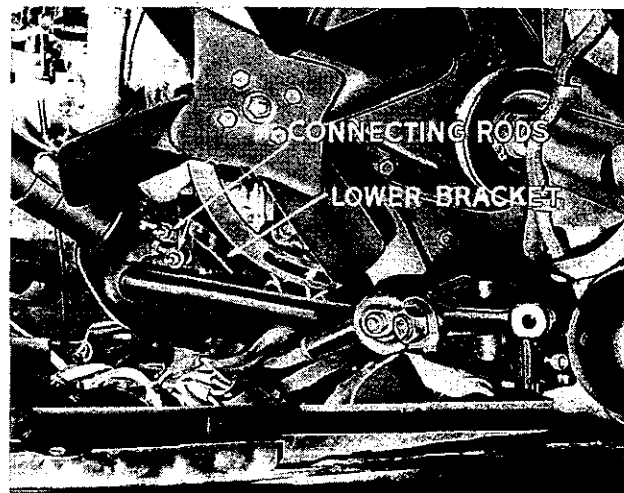

Fig. 12. Showing position for withdrawal of steering unit (R.H. steering)
18. The steering assembly can now be manoeuvred out of the car as shown in Fig. 12. The right hand steering model, shown does not actually require the removal of the grille as well as the radiator film block.